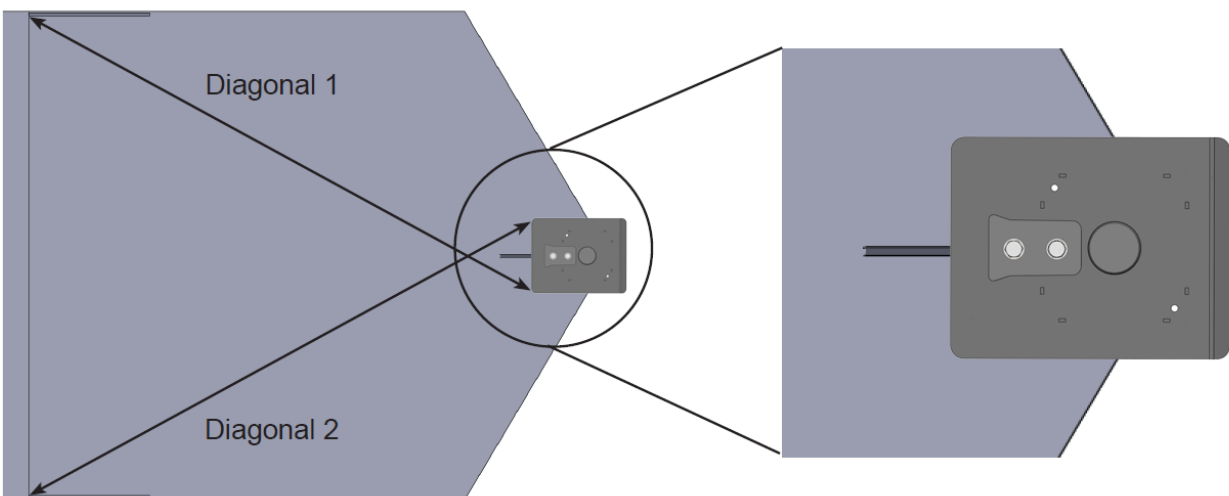

Figure 3
2. Verify that the Adapter is set square to the trailer by measuring on the diagonal from identically opposite points as illustrated in Figure 3 below.